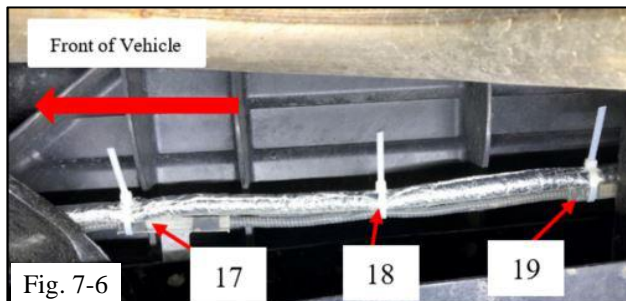

Fig. 7-6
- (i) Continue routing the body wire harness along the vehicle wire harness towards the rear of the vehicle using wire ties #17, #18 and #19 (Fig. 7-6).